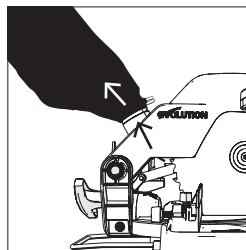

Fig. 31
- Slide the dust bag over the dust extraction port, ensuring that the spring clip grips the port holding the dust bag securely in place **(Fig. 31)**.